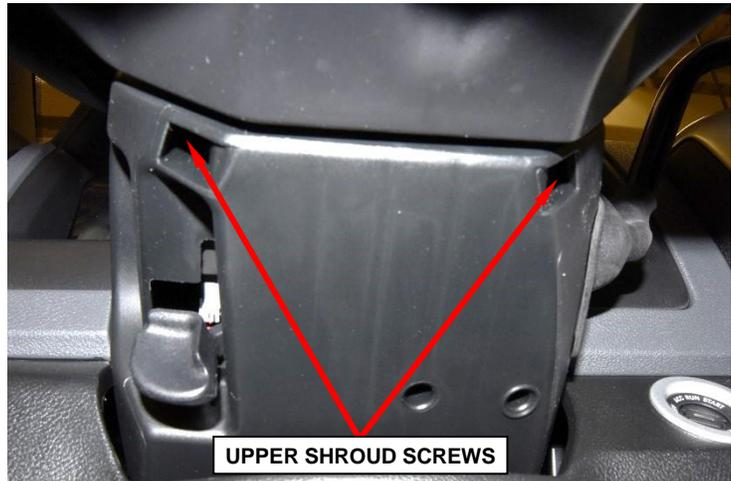

Figure 5 – Gearshift Boot
- Using a trim stick, disengage the gearshift boot from the steering column shrouds (Figure 5).
40. Attach the shift boot to the upper and lower steering column shrouds (Figure 5).